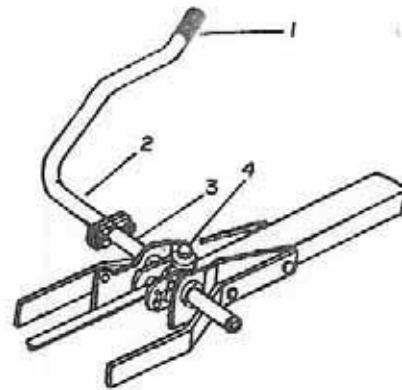

FIGURE 6
- d) Install arm lift (fig. 6, item 2) on arm lift extension (item 3) using two 5/16 X 3/4" bolts with nuts. Tighten securely.
- e) Install 1 X 4 1/2" handle grip (fig. 6, item 1) on arm lift (item 2).
- f) Lift the lift mechanism by pulling back the arm lift. The arm lift's top portion should be 1" outside the rear fender and 2 1/2" to 3" above tire. If your tractor is equipped with a cab, adjust the arm lift on top of the rear fender, the bottom part of arm lift as close as possible to footrest to permit using the arm lift inside the cab. For adjustment, loosen the bolt (fig. 6, item 4) and adjust properly. After the arm lift has been adjusted properly, tighten 5/8" bolt (item 4) very firmly. Using a hinge handle or torque wrench at 85 to 90 ft./lbs. to be sure the arm lift does not slide on the lift lever.